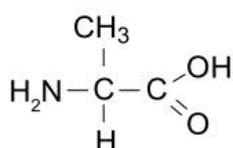

Figure 35.4
1. Construct as many alanine molecules as possible given the number of kits that are available. Figure 35.4 shows a molecule of alanine.